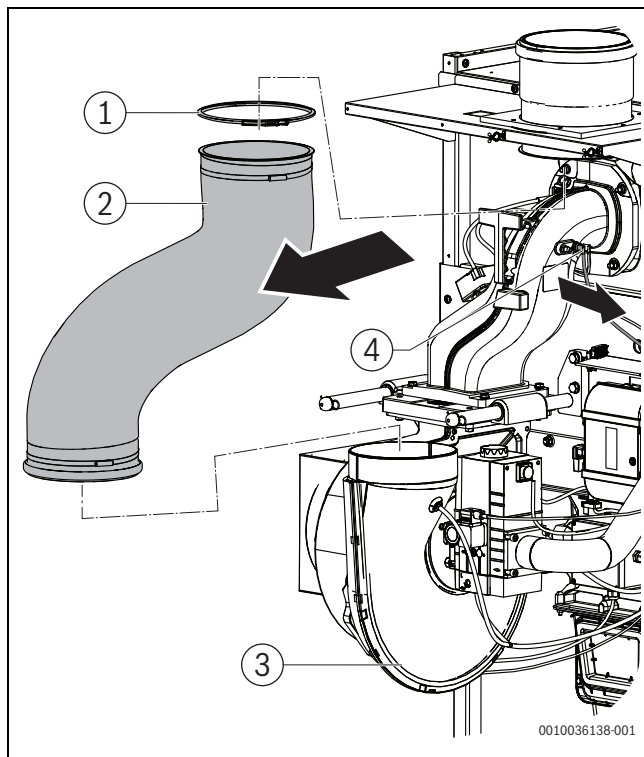

Fig. 49 Undoing the supply air hose
- ▶ Undo the temperature switch / burner controller connecting cable on the mixture manifold (→Fig. 49).
- Undo the temperature switch / burner controller connecting cable on the mixture manifold (→Fig. 49).